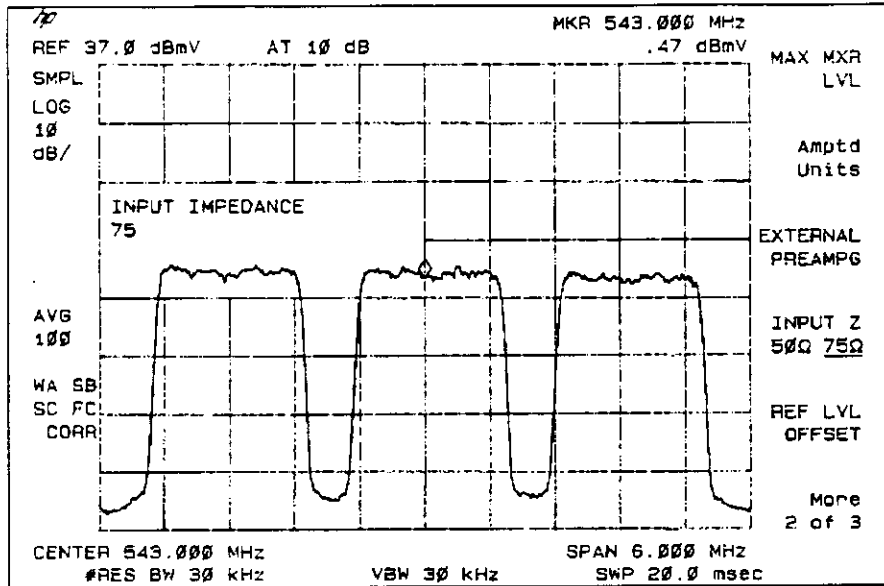

Figure 5-16. HIC Downstream CDMA Pedestals
4. Adjust Span and/or center frequency so that DS CDMA pedestals for all three sectors can be seen.	See Figure 5-16.